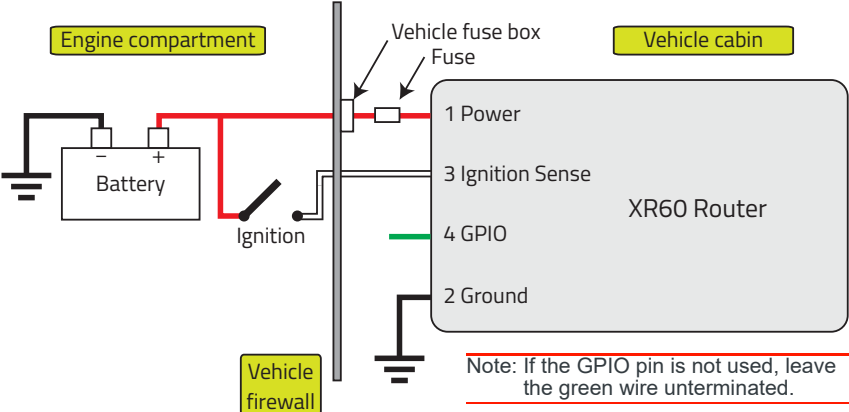

Figure 2-6: Vehicle Installation Wiring Diagram—Recommended Basic Method
7. Use a 10 A fast blow fuse, recommended to have no more than  $\pm 10\%$  derating over the operating temperature range, to connect the red (Power) wire on the DC power cable to the vehicle's fuse box. (e.g., Figure 2-6.)
For most vehicle installations, Semtech recommends connecting the white Ignition Sense wire to the vehicle’s ignition switch, as shown in Figure 2-6.